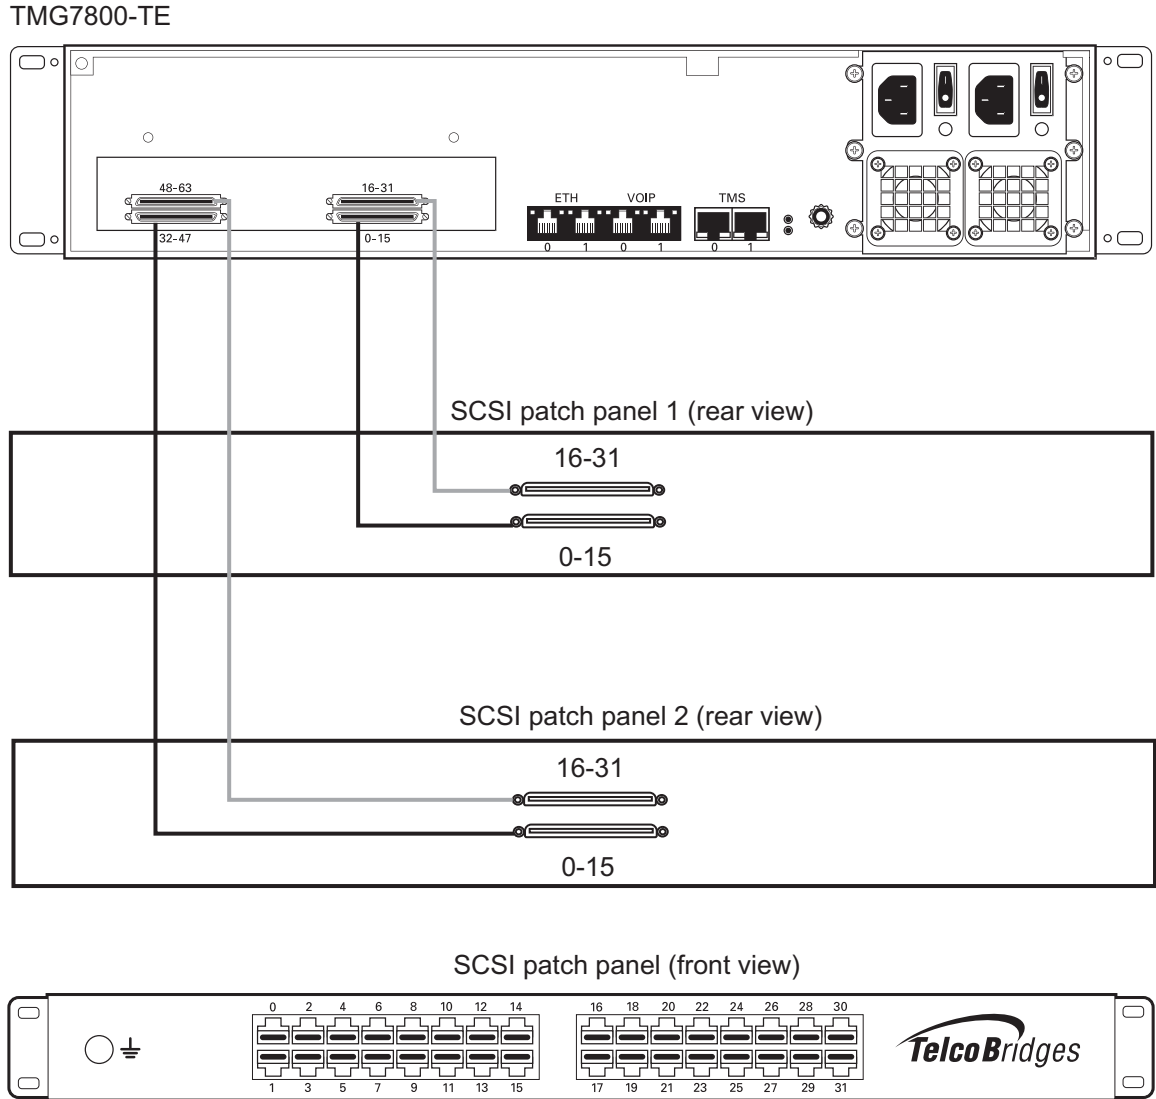

Figure 4.3 TMG7800-TE with SCSI connectors
1. Start with SCSI ports 0-15 located at the bottom right as shown in figure 4.3 on page 28. Connect one SCSI cable between this port and SCSI patch panel number 1, ports 0-15. Connect SCSI ports 16-31 to patch panel number 1, ports 16-31.